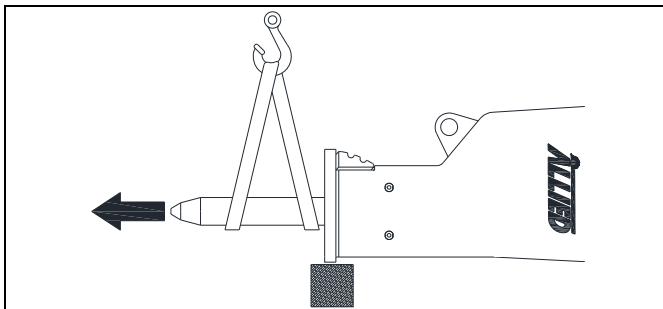

Fig. 10-5 Support Weight of Tool & Remove
7. Tool is free and can be removed from Front Head [Fig. 10-5].